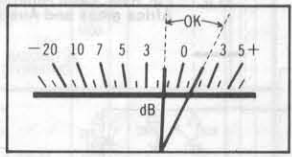

Fig. 20
- At this time, confirm that the level meter reading is within a range of -1.5 dB to +1.5 dB (shown in fig. 20). (Confirm this for both for L and R channels.)